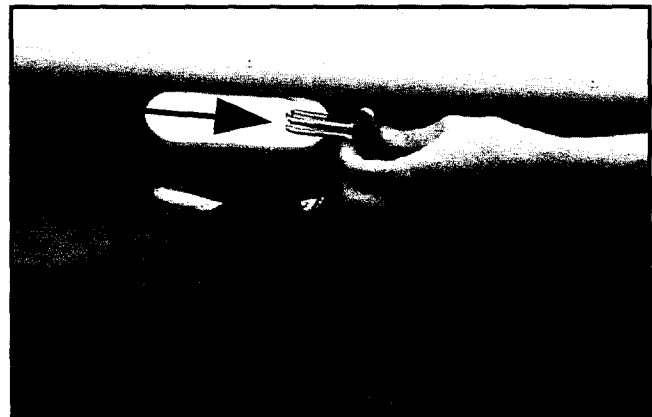

Figure 5 - Attaching a Tension Hook
1. One end of the foot plate strap is fitted with a single hook and the other end is fitted with two hooks. Slide the single hook onto the stretcher shell at the handhold opening closest to the patient's feet (Figure 5).